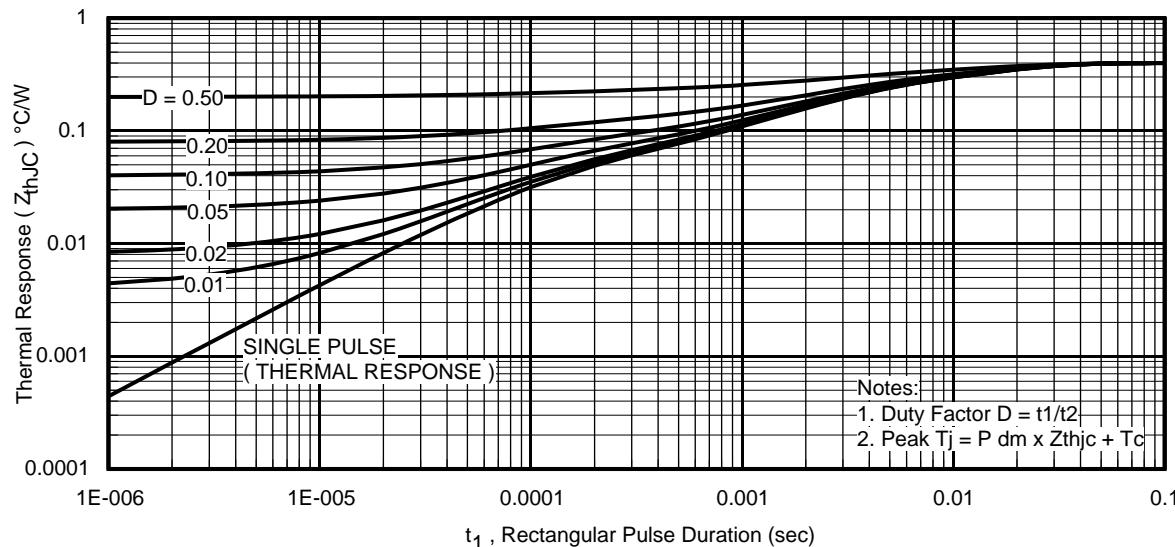

Fig 13. Maximum Effective Transient Thermal Impedance, Junction-to-Case
7.  $\Delta T$  = Allowable rise in junction temperature, not to exceed  $T_{jmax}$  (assumed as  $25^{\circ}\text{C}$  in Figure 13, 14).
$Z_{thJC}(D, t_{av})$  = Transient thermal resistance, see Figures 13)